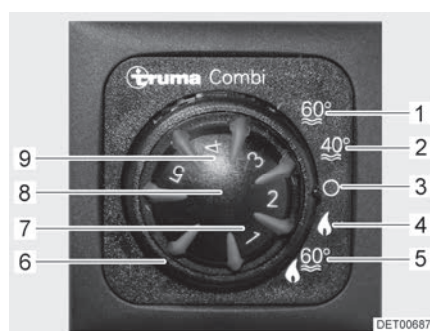

Fig. 92 Operating unit
Selecting operating mode: ■ Set the operating mode using the rotary switch (Fig. 92,6).
In winter operation "Heater and production of hot water" (Fig. 92,5) the domestic water is automatically heated up when the heater is switched on. If the heater switches off after the required room temperature has been reached, the domestic water will continue to heat up until the set water temperature has been reached.
In the operating mode "Only heater" (Fig. 92,4) the heater can be operated with an empty domestic water container.
- Turn the temperature control knob (Fig. 92,8) on the operating unit to the desired heating level.
- Set rotary switch (Fig. 92,6) to winter operation "Only heater" (Fig. 92,4) or to winter operation "Heater and production of hot water" (Fig. 92,5).
The green indicator lamp (Fig. 92,7) is on.
- Turn the rotary switch (Fig. 92,6) to "O" (Fig. 92,3).
- Set the rotary switch (Fig. 92,6) on the operating unit (Fig. 92) to "Summer operation" (Fig. 92,1 or 2).
The yellow indicator lamp (Fig. 92,9) is illuminated during the heating up period. When the set water temperature is reached, the period of heating up is finished and the yellow indicator lamp fades.
In case of fault, the indicator lamp (Fig. 92,9) on the operating unit glows red (see section 15.6).
- Set the rotary switch (Fig. 92,6) on the operating unit (Fig. 92) to "O".